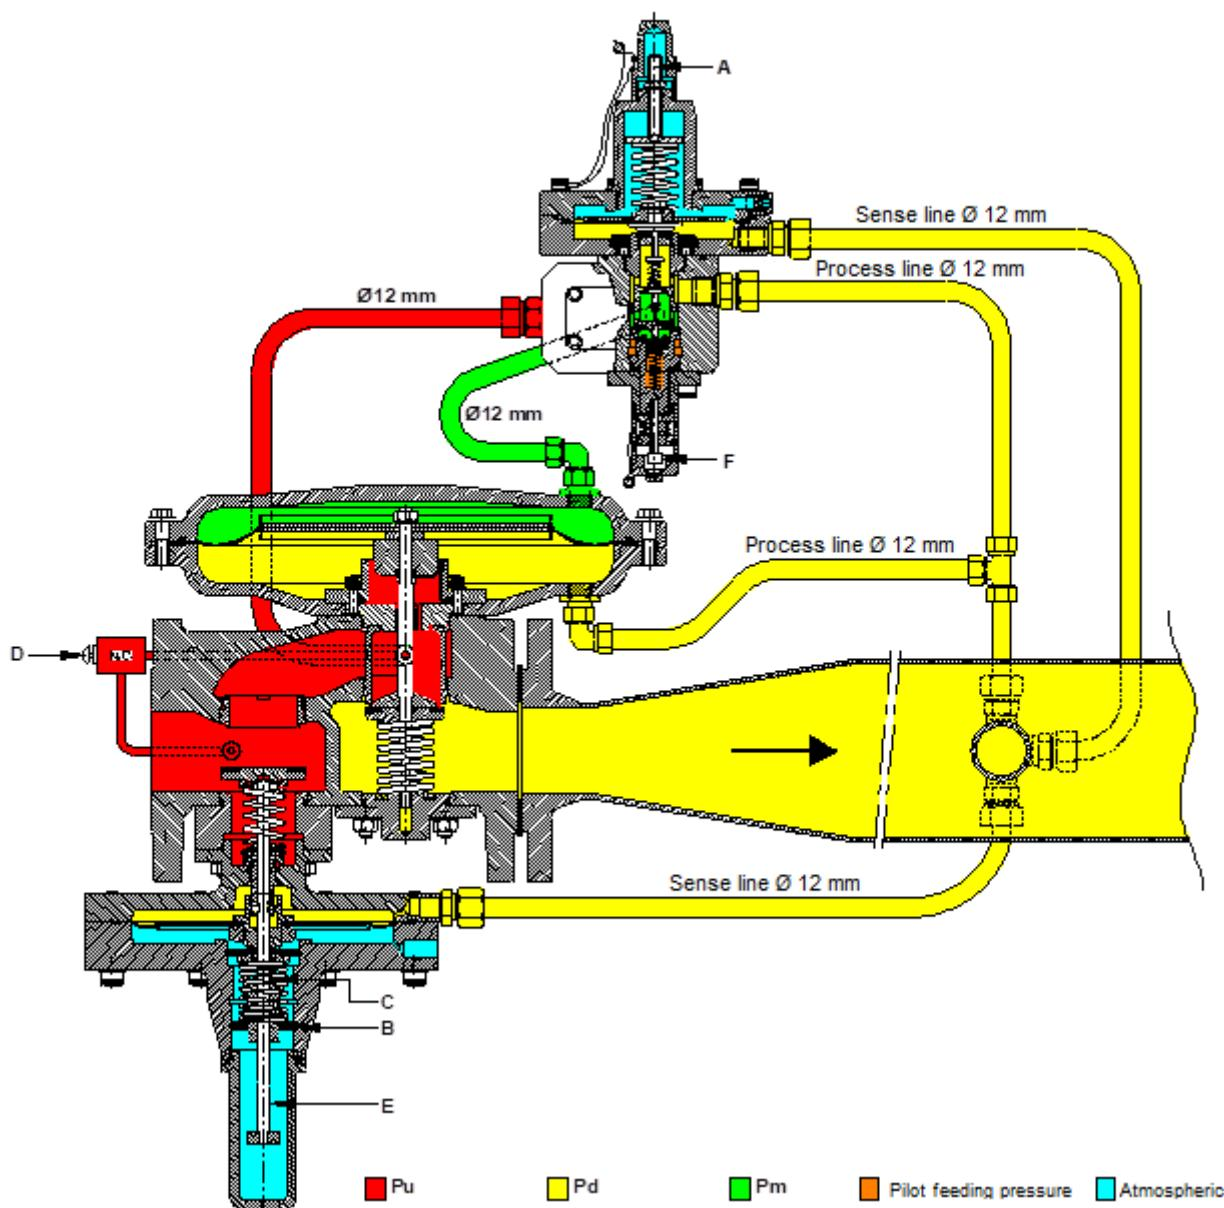

Figure 4
If the inlet pressure  $P_u$  is present (increase the pressure slowly), the pressure difference over the safety shut-off valve can be slowly released by actuating the pressure equalisation valve on the body of the gas pressure reducer (see figure 4, item D). During pressure equalization,  $P_d$  will rise to the set value. The safety shut-off valve can then be reset. The gas pressure regulator will deliver when the adjustment valve (see figure 2) is opened.
The diagram in Figure 4 shows the positions of the control devices which can be used to set or operate the gas pressure regulator.
- Adjust the pilot regulator to the desired outlet pressure (see figure 4, position A).